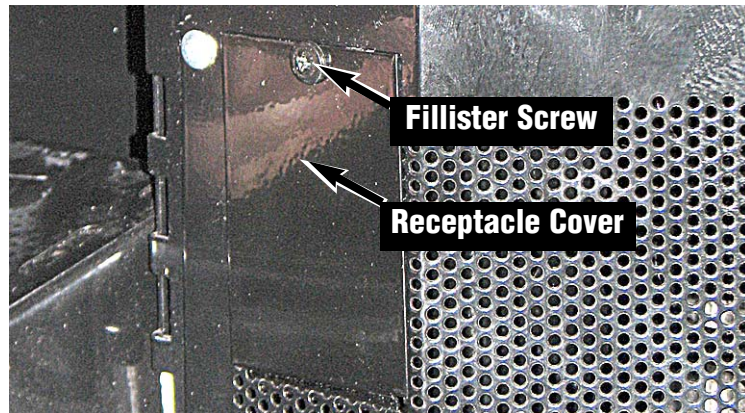

Figure 19 — Install Receptacle Cover
- 17** Attach **Receptacle Covers — 5** to the center flue with **Fillister Screw — 6** as shown in Figure 19.